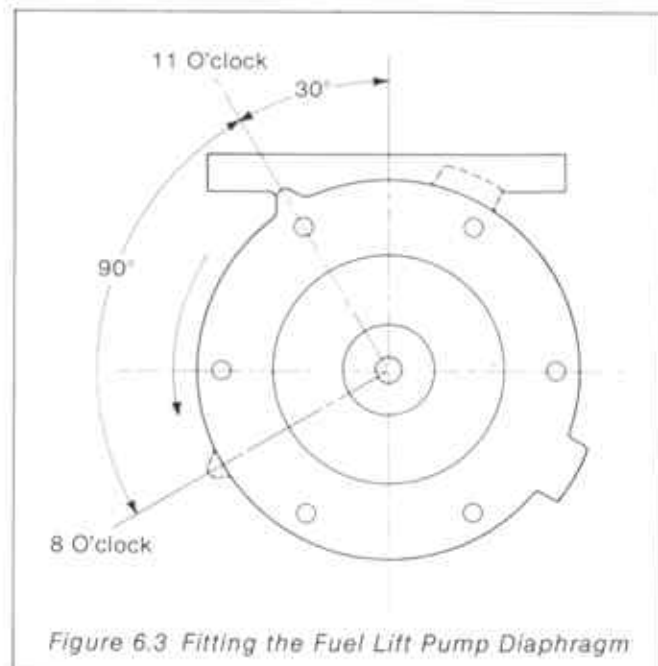

Figure 6.3 Fitting the Fuel Lift Pump Diaphragm
- (1) Fit (where applicable) the suction and delivery valves.
- (2) With reference to Figure 6.3 assemble the diaphragm and pull rod by setting the locating tab on the periphery of the diaphragm at the 11 o'clock position. Press down on the diaphragm against the spring pressure and turn counter-clockwise through 90°. This allows the pull rod to engage the fork in the linkage. The tab should now be in the 8 o'clock position.